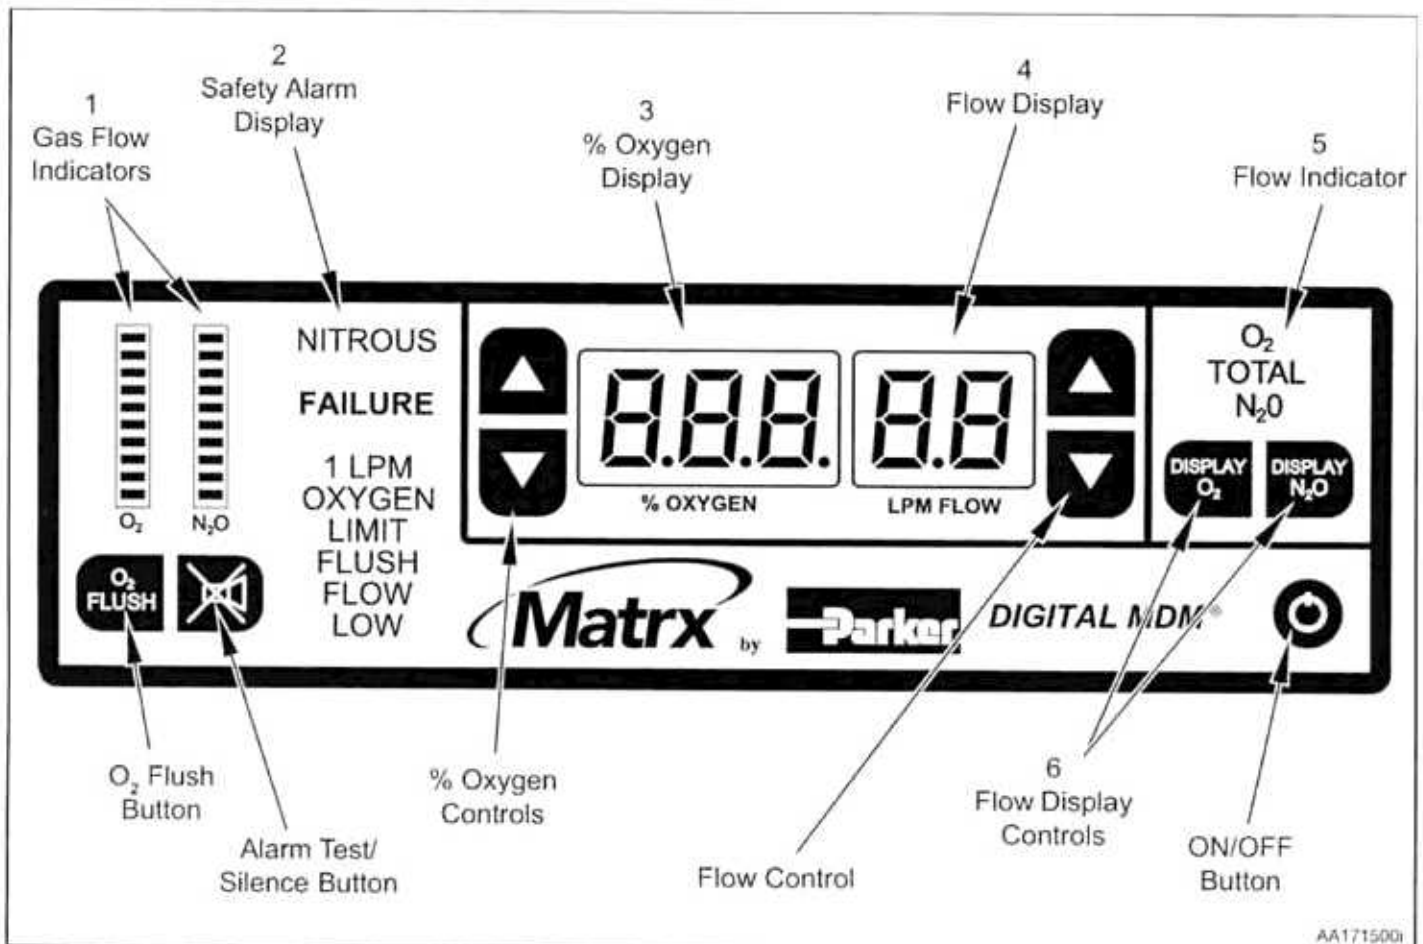

Figure 2. Matrix DIGITAL MDM[®] Mixer Front Panel (figure shows all LEDs illuminated).
In the following, the location numbers refer to Figure 2.
There are four alarm conditions on the DIGITAL MDM® mixer. They appear in the safety alarm display (see Figure 2, item 2) only when conditions warrant. Otherwise, they are not visible. The alarm conditions are: